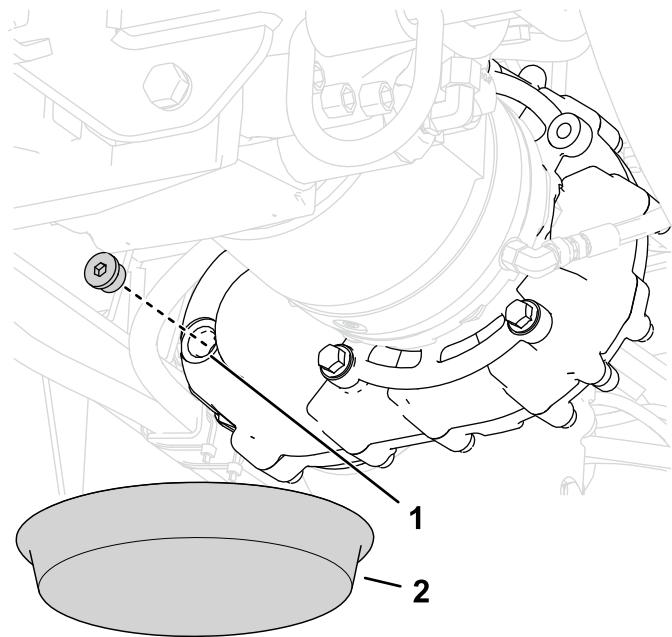

Figure 113
2. Remove the plug from the sight port (Figure 113).
1. Place a drain pan under the gearbox (Figure 113).
- Remove the plug from the sight port (Figure 113).